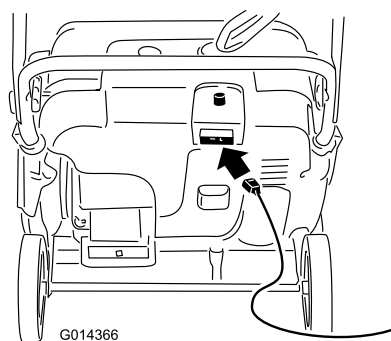
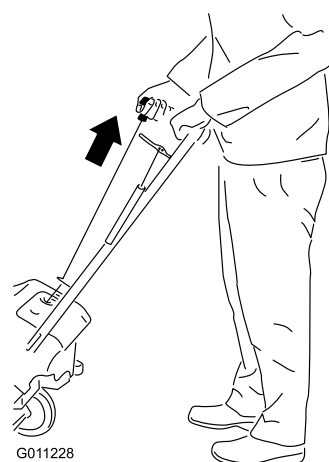

Figure 17
Figure 18
4. Connect an extension cord to a power source and the machine, and push the electric-start button (model 38452 only) (Figure 17), or pull the recoil start handle (Figure 18).